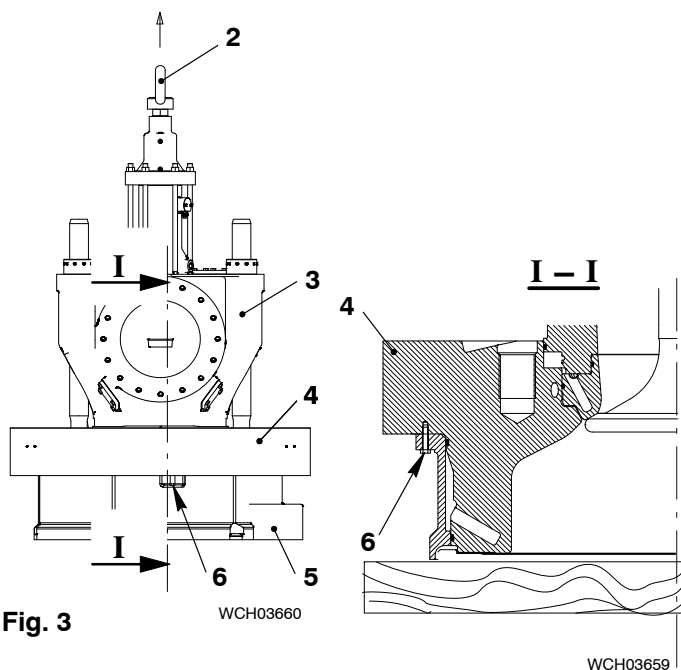

Fig. 3
- 8) Attach the engine room crane to the eye bolt (1, Fig. 3) on the exhaust valve (2).
- 9) Carefully lift the cylinder cover (3) together with the exhaust valve (2) and the top water guide jacket (5).
- 11) Remove the three screws (4) from the cylinder cover (3).